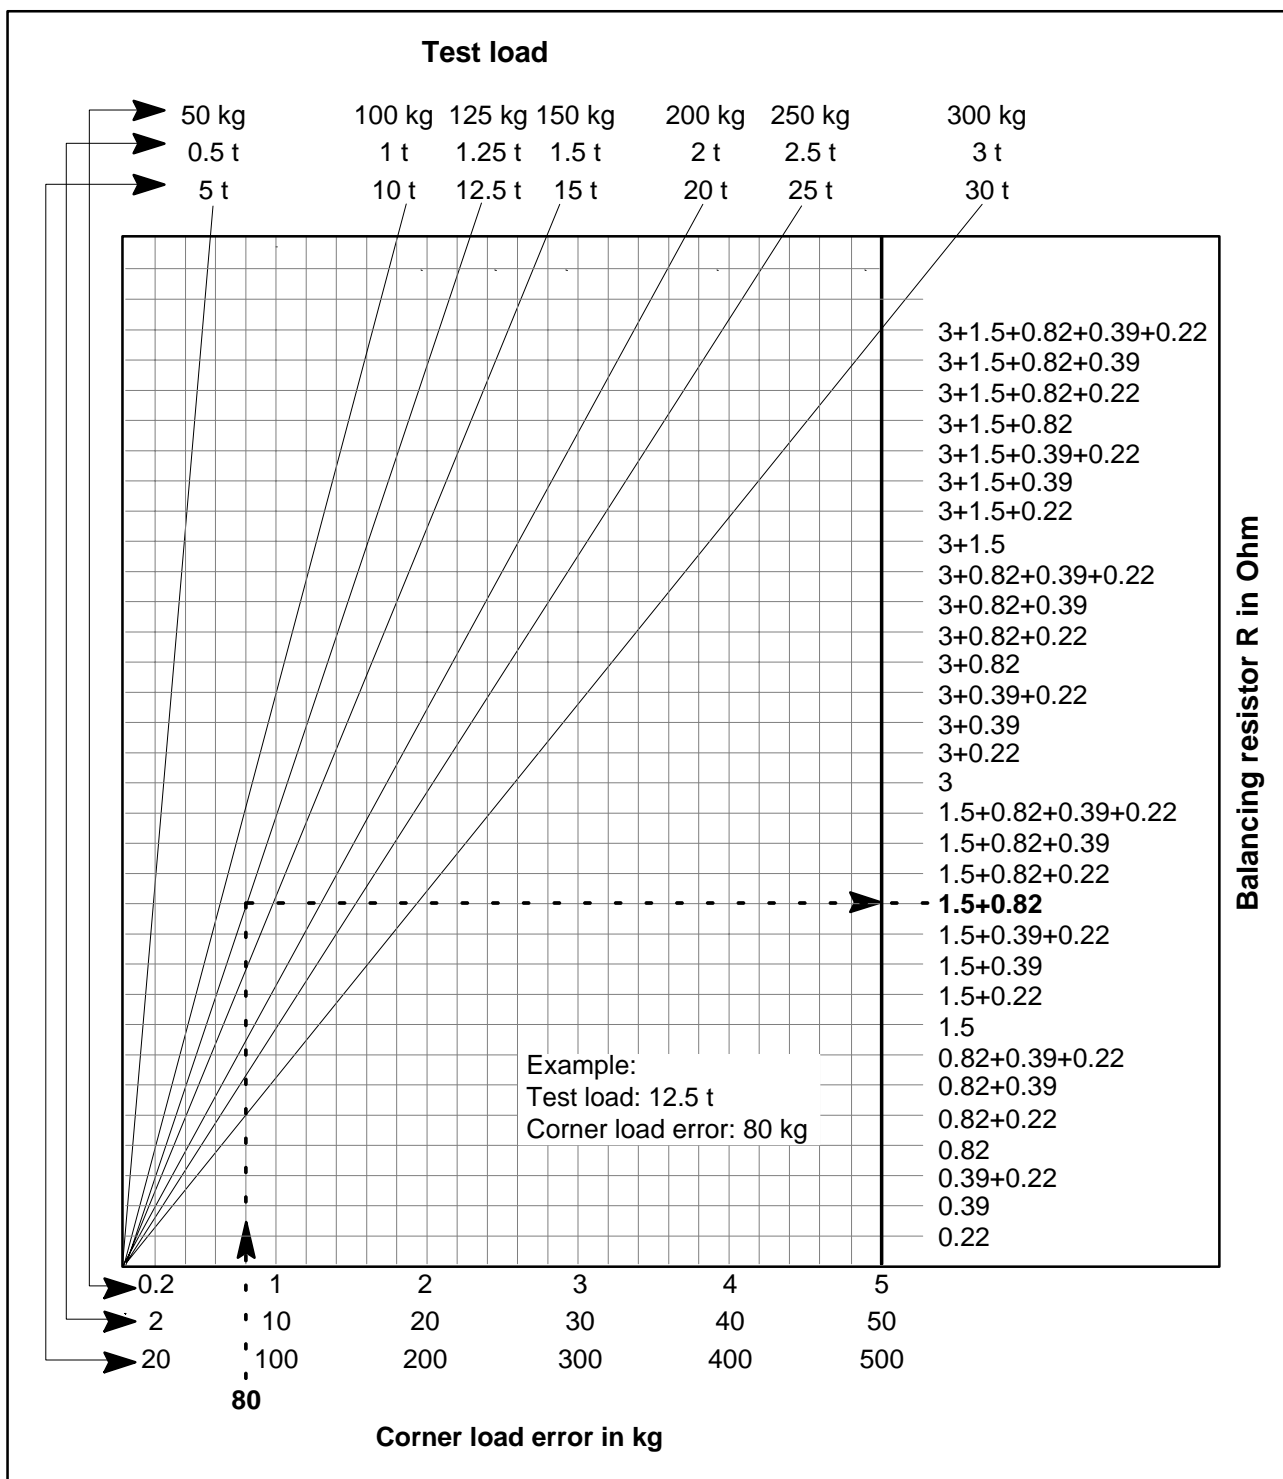

Fig. 7.2: Corner load balancing for 350 Ω load cells
- The chart (Fig. 7.2) is graduated in 7 test load ranges. Select the test loads used (in this example 12.5 t) in the relevant line. Starting from the calculated corner load error difference on the X-axis, look for the intersection with the test load and then, on the Y-axis, read off the resistance and the most suitable combination. The resistance values here apply for 350 Ω load cells (see the table in the lid of the VKK...).
In our example, load cell 3 has a corner load error of 80 kg, which produces an adjustment resistance of $1.5+0.82 \Omega$ (shown in Fig. 7.2).